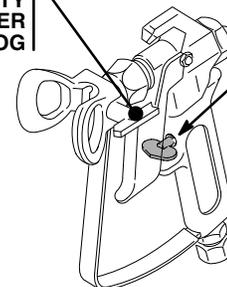

Fig. 6
2. If the spray tip does clog, release the gun trigger, engage the gun safety latch, and rotate the RAC IV handle 180°. See Fig. 6.